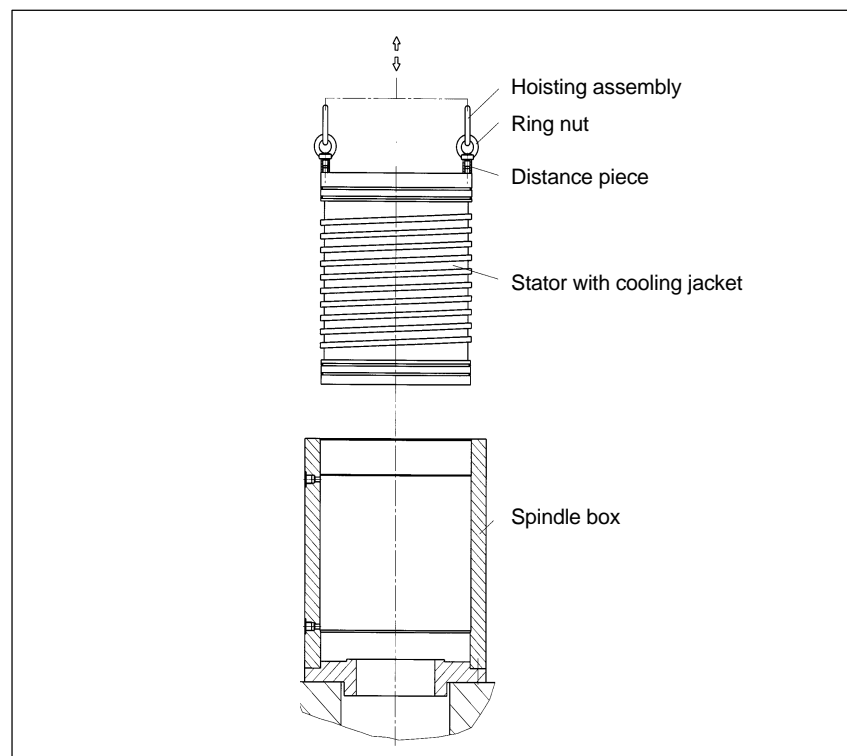

Fig. 1-9 Transporting and installing the built-in motor stator
- Allow the stator to slide into the spindle housing, centered (refer to Fig. 1-9). Suitable transport lugs, e.g. ring bolts according to DIN 580 should be used to hoist the built-in stator.